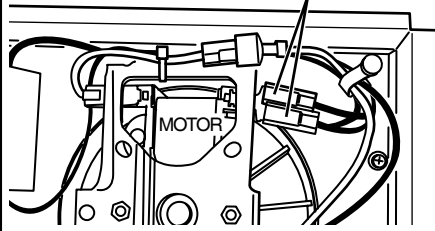

FIG. 11 - 120VAC TO 240VAC CONVERSION
2. **120 VAC to 240 VAC Conversion (FIGS. 11 & 12)**
2. **Conversión de 120 VCA a 240 VCA. (FIGS. 11 & 12)**